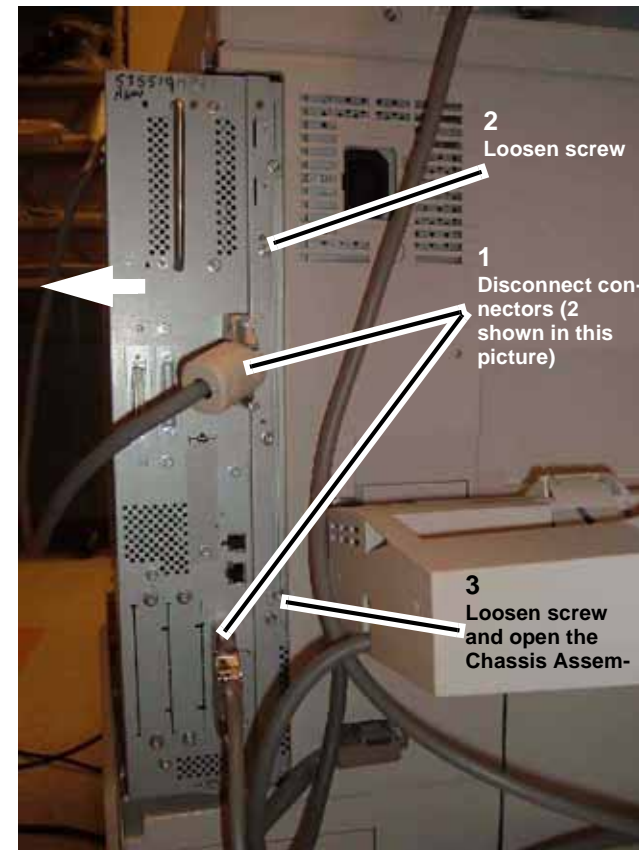

Figure 4 Opening the Chassis Assembly
4. Open the Chassis Assembly (Figure 4).